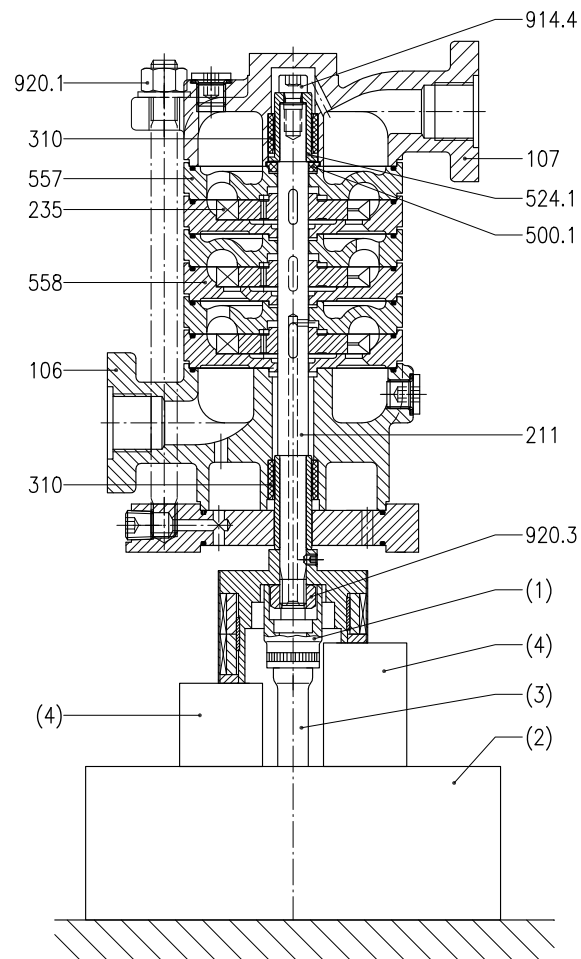

Fig. 5: disassembly of impeller
1. Place the driven rotor with the premounted pump shaft in a jaw chuck. Use socket wrench insert size 19 for the hexagon nut 920.3. Consider Figure 5